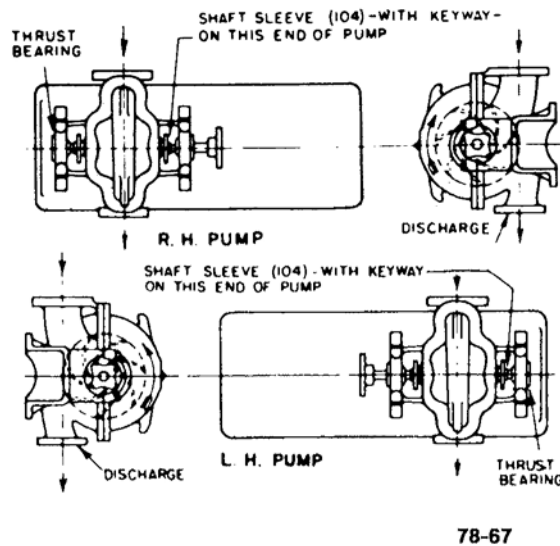
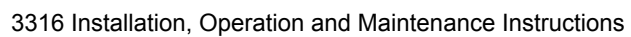
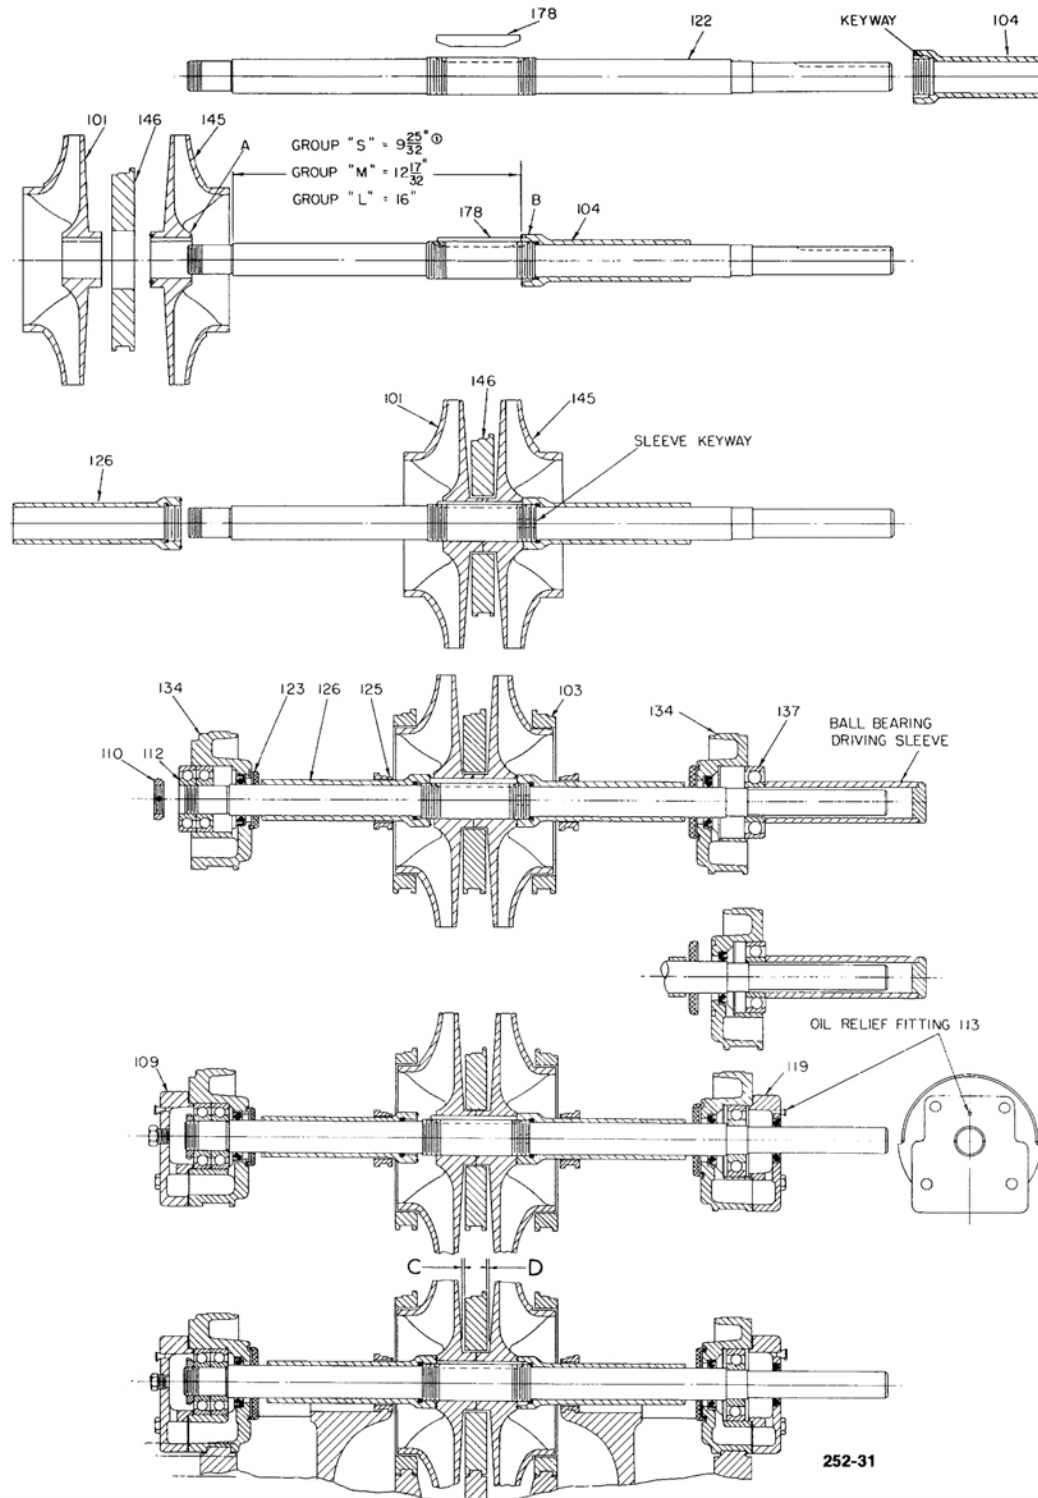

Figure 21:
Figure 22: Left hand pump
Figure 23: Right hand pump
2. Determine the correct setting of the impellers and sleeves on the shaft in relation to the rotation of the pump. To do this, face the discharge flange of pump. The locking shaft sleeve (104) (sleeve with keyway) must be on the right as shown in Figure 21 and the impellers must rotate in correct relation to the casing as shown in the end views in Figure 21.
3. Mark the location of the keyways on the outside of both the second stage impeller hub (145) and the locking sleeve (104) at points "A" and "B" in Figure 22 and Figure 23. These marks will be used later to indicate that the keyways are in line.
on Figure 23 for right hand or Figure 22 for left hand rotation. This dimension must be held as near as possible with the keyways in the shaft and sleeve in alignment.
After the element has been properly seated in the lower half casing, check the clearance at "C" and "D". (See Figures 21 and 22). The clearance at "C" and "D" should be equal.
- c) Apply a film of oil to the bearing seat on the shaft. Start bearing "square" and tap on shaft up to the shaft shoulder. Use a driving sleeve as shown in Figure 21: on page 41 and Figure 22: Left hand pump on page 42.
- d) Screw shaft nut (110) tight against bearing.
- f) Bolt bearing end cover (109) to bearing housing. Be sure gasket (360) is in place. Position end cover as directed in Section 7.11 Reassembly of pump on page 41, Step 20 so that relief fitting is in correct location.
- g) Assemble bearing cap (111) being sure that the prick punch marks on the cap and the casing are on the same side. Now tighten the nuts evenly.